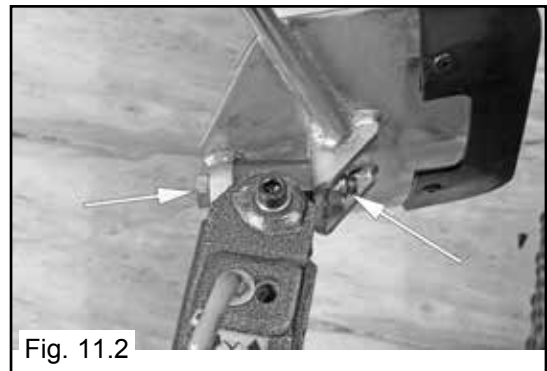

Fig. 11.2
6. Position the bead breaker shoe against the tire next to, but not on, the rim. Press the breaker pedal to actuate the shoe and loosen the bead. It may be necessary to loosen the bead in multiple locations around the tire. (See Fig. 11.2)